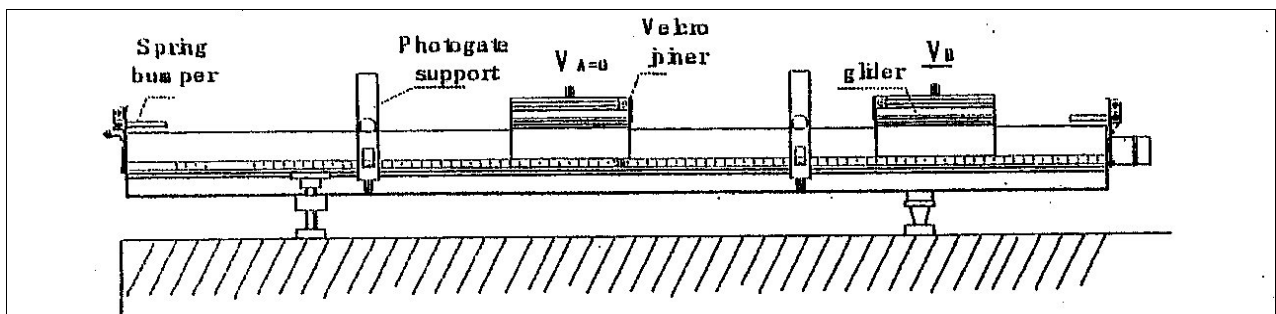

Figure 4.4.2: Inelastic Collision
- Step 1: Set up the apparatus as shown in Figure 4.4.2. Level the track as described in paragraph 3.3. Install spring bumpers at both ends of the track. Install two photogate at about the 30cm and 90cm positions.